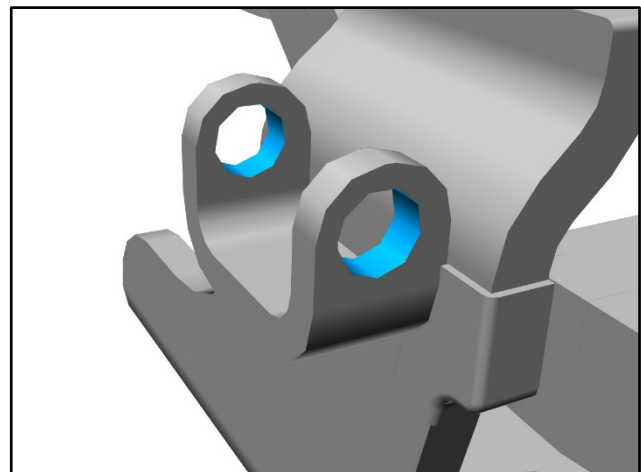

**Figure 42**
1. Remove the left side and right side lock mechanisms (refer to Figure 42).